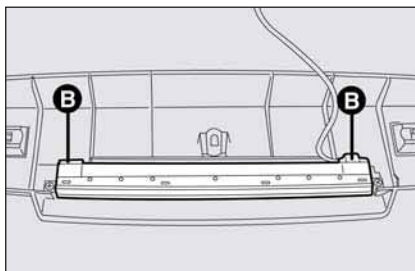

fig. 34
- ☐ press catches **B**-fig. 34 and remove the bulb holder;
- ☐ refit the bulb holder making sure catches **B**-fig. 34 click into place.